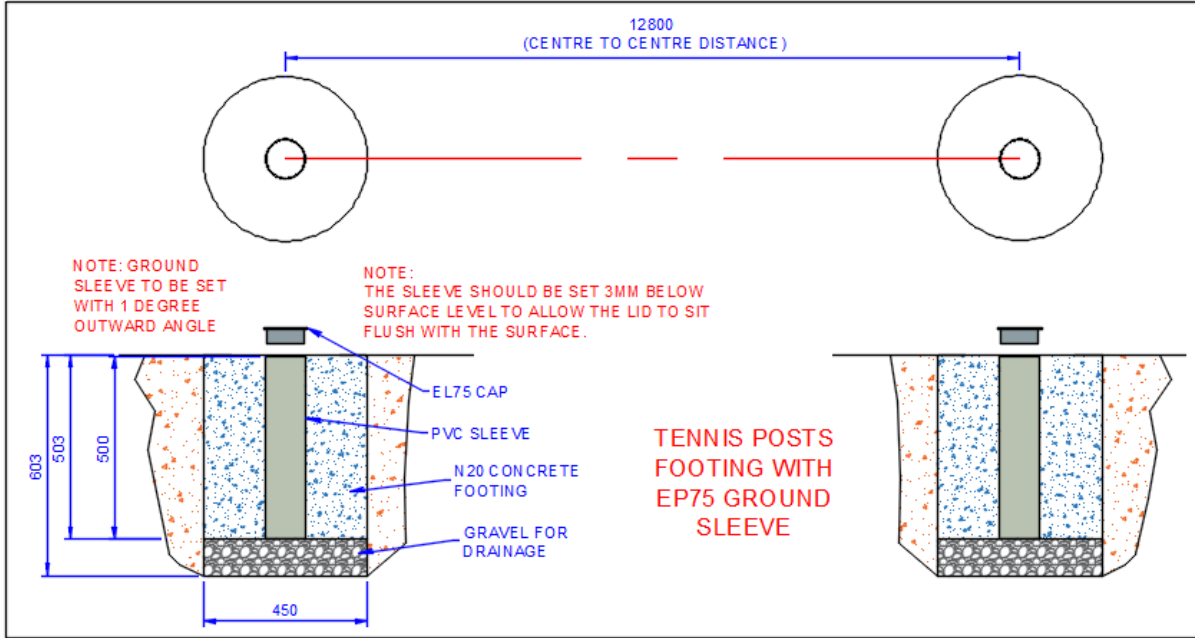
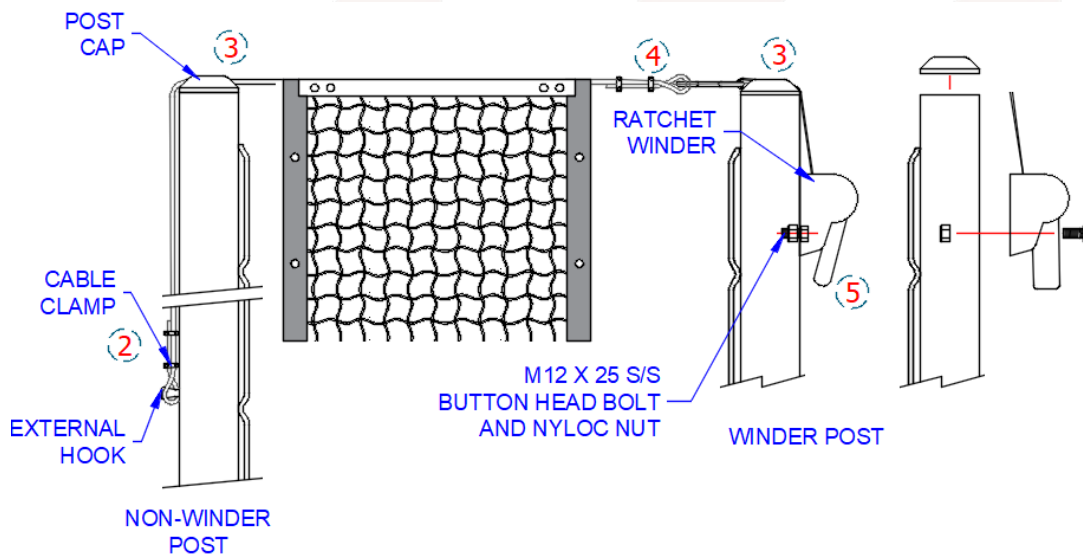

Figure 2: EP75 & EL75 Footing Details
Figure 5: Net Installation Details
- *Please refer to Figures 2,3 & 4 for further details. The ground sleeves must be installed in a specific orientation as shown in Figure 5 and it is the Installer/Contractor's responsibility to ensure that.*